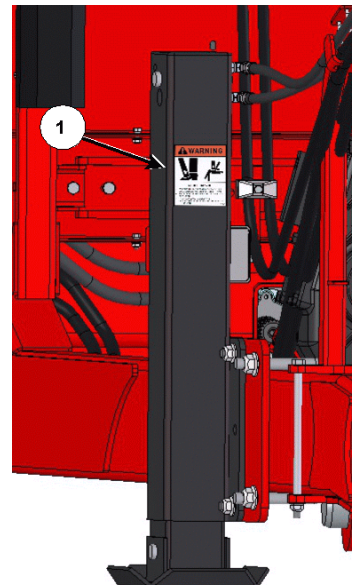

Figure 8: Affix the 'WARNING Crush Hazard' decal
14. Affix the 'WARNING Crush Hazard' decal (1) (part# E26087) to the front of the hydraulic jack, approximately 6" from the top, ensuring to center it on the tube, see *Figure 8*.